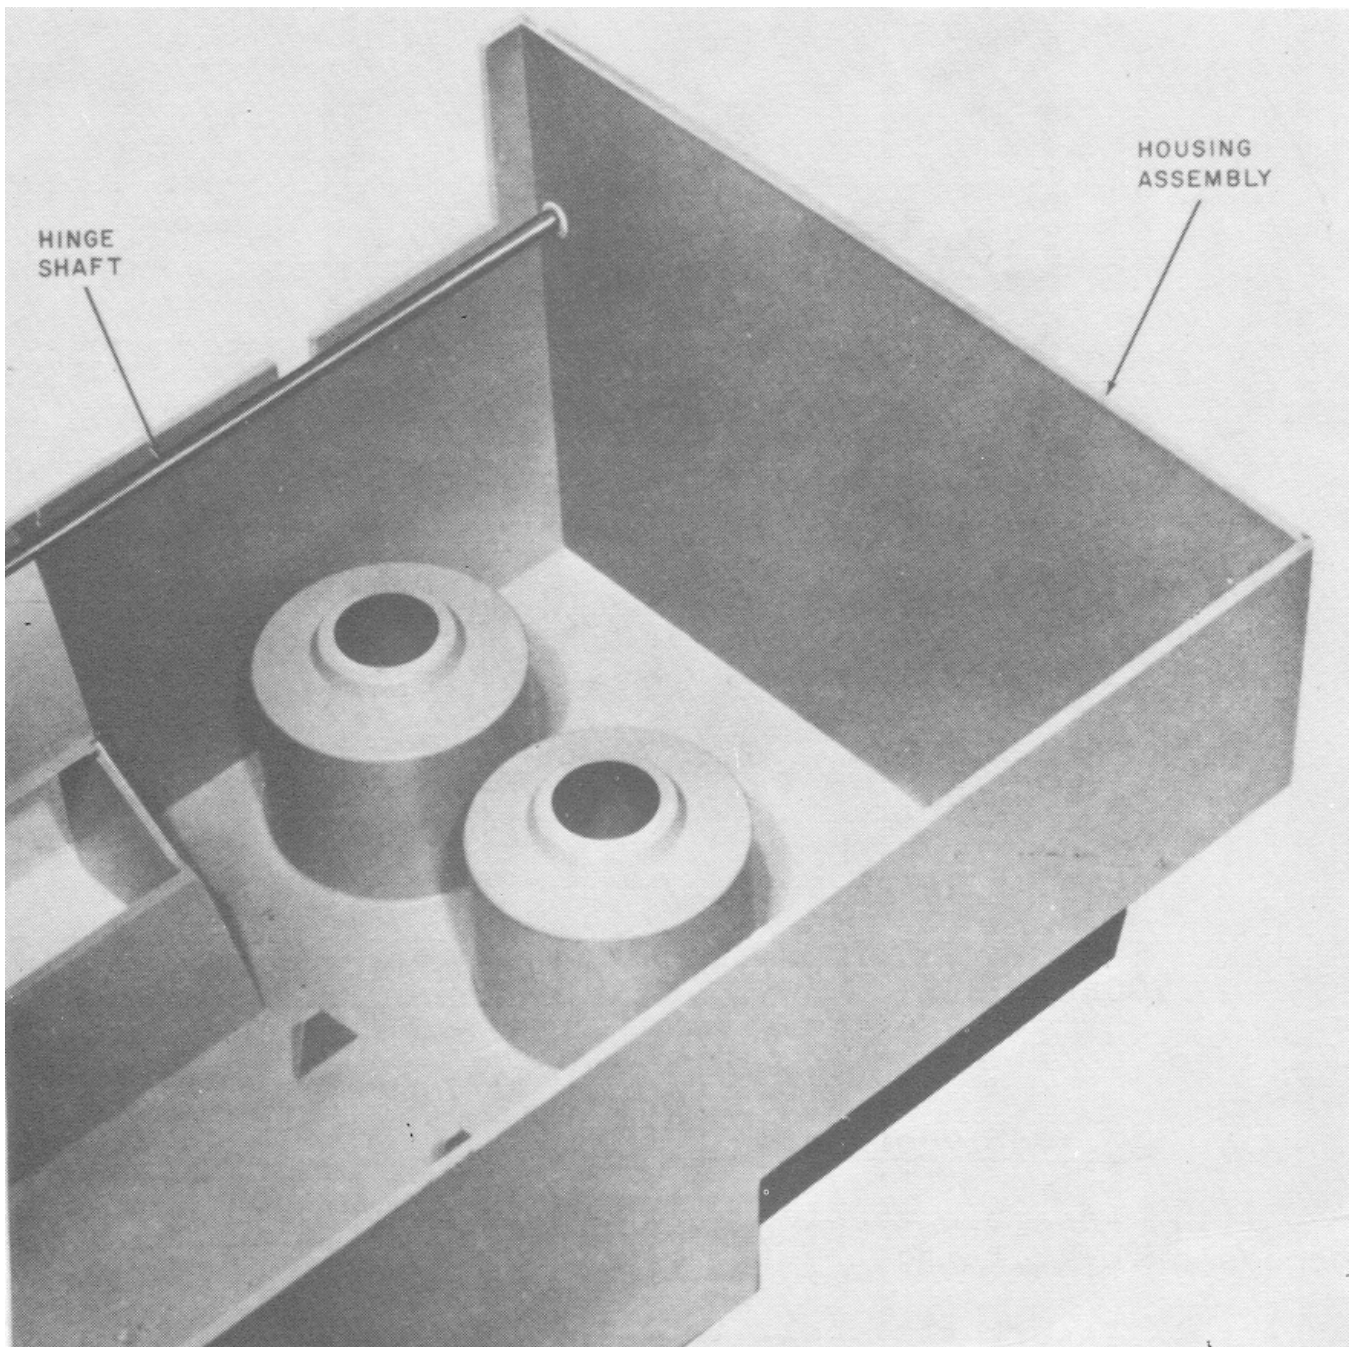
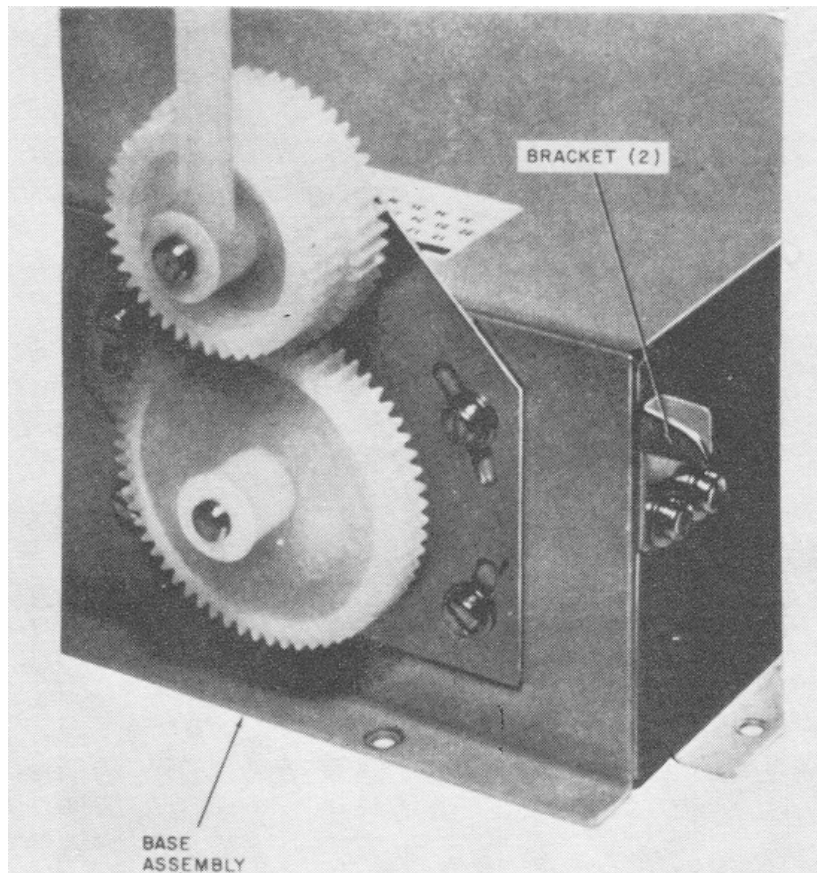

FIGURE 3-9. Housing assembly, bottom view.
FIGURE 3-10. Bracket location for assembly of housing assembly.
(2) Tilt the front of the housing assembly upward and toward the rear of the print processor hooking the hinge shaft (figure 3-9) under the two brackets mounted on the rear of the base assembly (figure 3-10).
(3) Gently lower the front of the housing assembly until it seats properly and securely.
(6) Remove the housing assembly from the print processor by lifting the housing assembly upward from the front and then lifting it rearward until the hinge shaft (figure 3-9) is free of the brackets (figure 3-10).